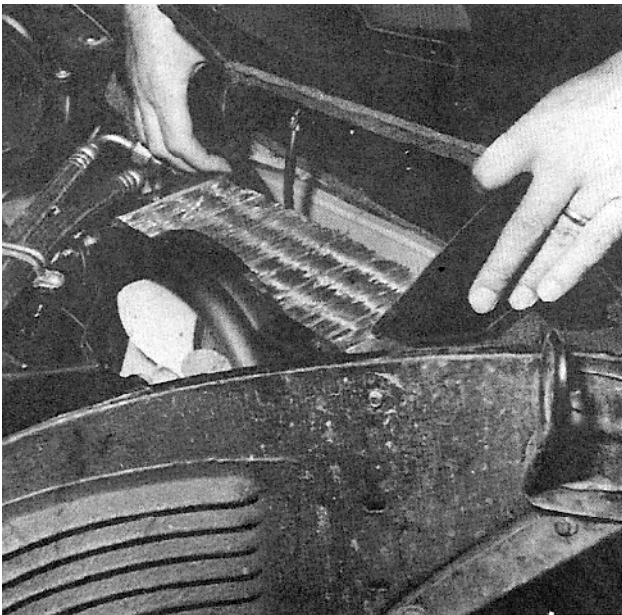

FIG 13
7. Referring to FIG: 13 & 14 bend sides of shroud forward. Position shroud in bumper and place the flanges of the shroud between the first fin and the end plates of the coil. Now secure shroud with the (4) #8 x 1/2" Sheet metal screws to the condenser assembly. Repeat operation for the second condenser.